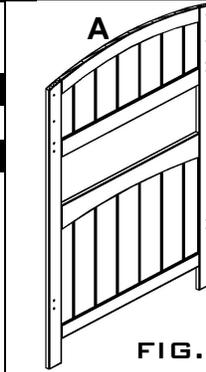

FIG. 1
1 PC BUNK BED END TWIN BOX (28-706) FIG.1 (2 PCS)
1.-ALIGN THE PRE-DRILLED HOLES IN LONG PART OF METAL HOOKS BRACKETS (J) WITH THE PRE-DRILLED HOLES IN THE LADDER (I),SECURE WITH TWO 1" SCREWS (K) USING PHILLIPS HEAD SCREWDRIVER (**NOT INCLUDED**),SEE FIG.B &HOOK THE LADDER IN THE PROPER POSITION, ADJUST&ALIGN THE PRE-DRILLED HOLES IN THE SHORT PART OF METAL HOOKS ON TOP GUARD RAIL &SECURE THE LADDER, AS SHOWN IN **FIG.1**